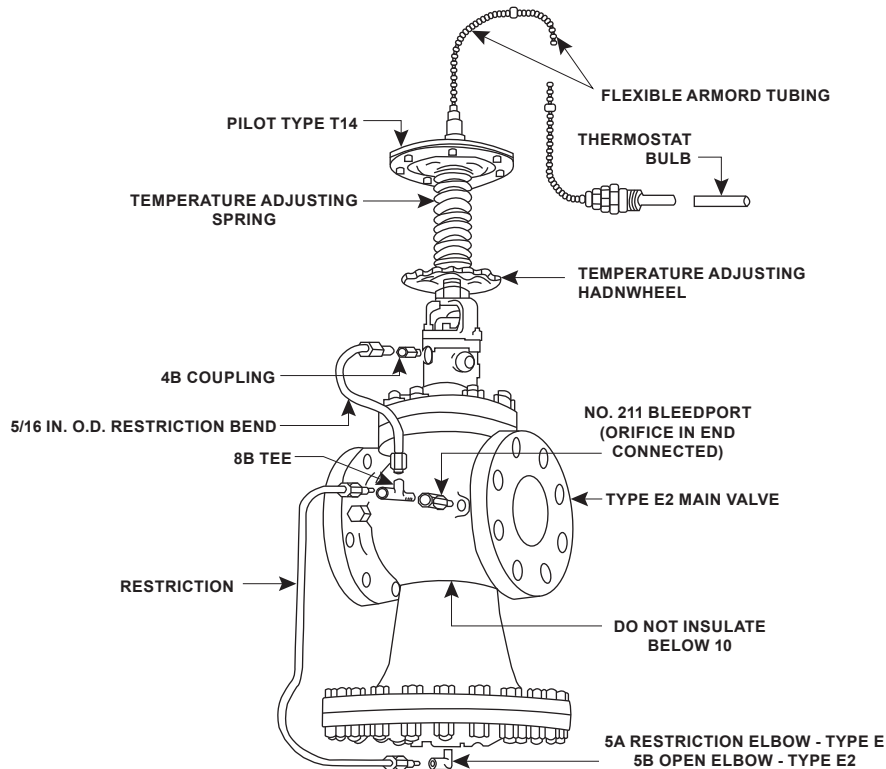

Figure 4. Type ET14 or E2T14 with Integrally Mounted Pilot Assembly Drawing
1. Remove protective covers from main valve top flange and pilot flange. Mount pilot to main valve as shown in Figure 4.
2. Screw No. 211 bleedport fitting into the 1/8 NPT pipe tap on the outlet side of the main valve body. Note the orifice in this fitting—vital to the operation of the regulator. Screw No. 8B tee fitting into the No. 211 fitting. (Refer to Figure 4.)
5. Connect the two tubing bends provided as shown in Figure 4.
Insulation may be applied to the globe and flanges of the main valve. Do not insulate the diaphragm chamber or any part of the pilot. (See Figure 4)
2. Refer to Figure 4. Back off temperature adjusting handwheel to remove all tension on temperature adjusting spring.